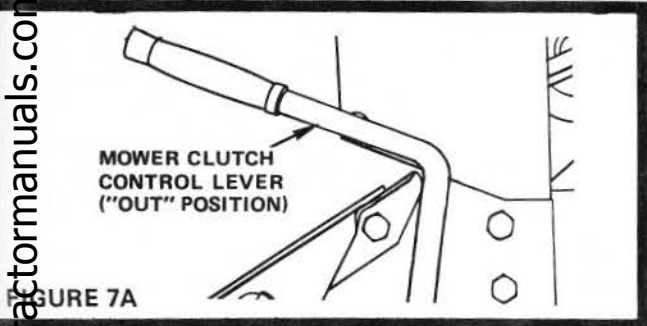

FIGURE 7A
6. Place Mower Clutch Control Lever in "OUT" Position as shown in Fig. 7A.
Place Mower Clutch Control Lever in "OUT" position (Fig. 7A).